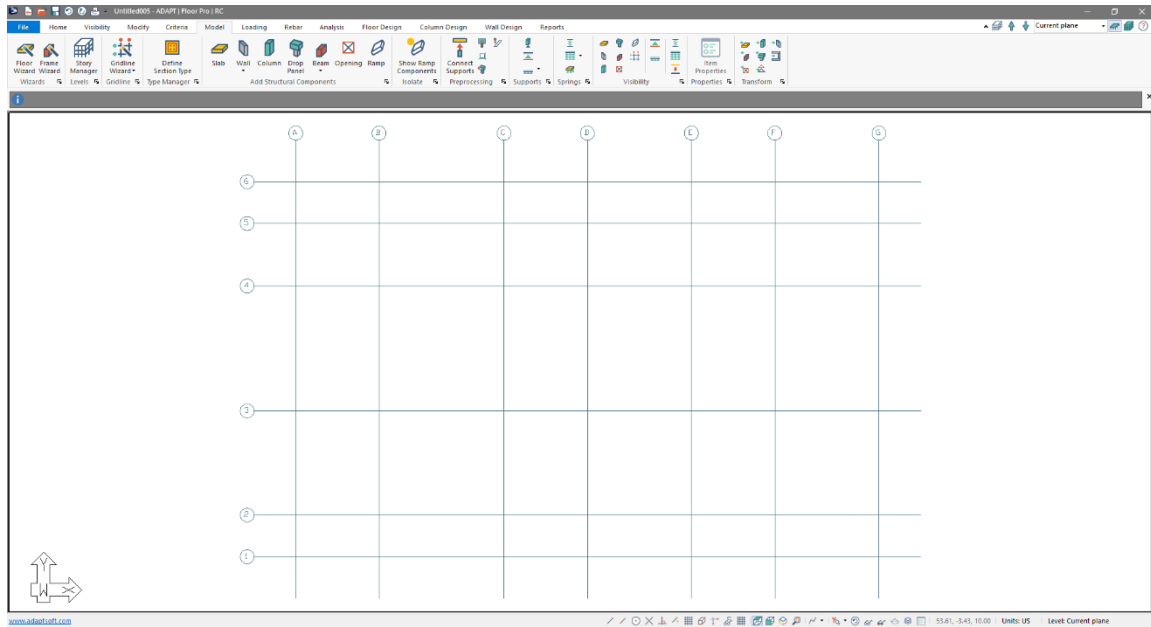

Figure 2-6
- Renumber all vertical gridlines in the same fashion so that they match those from the CAD drawings we are using. In the end the user should have gridlines as shown in **FIGURE 2-6**.